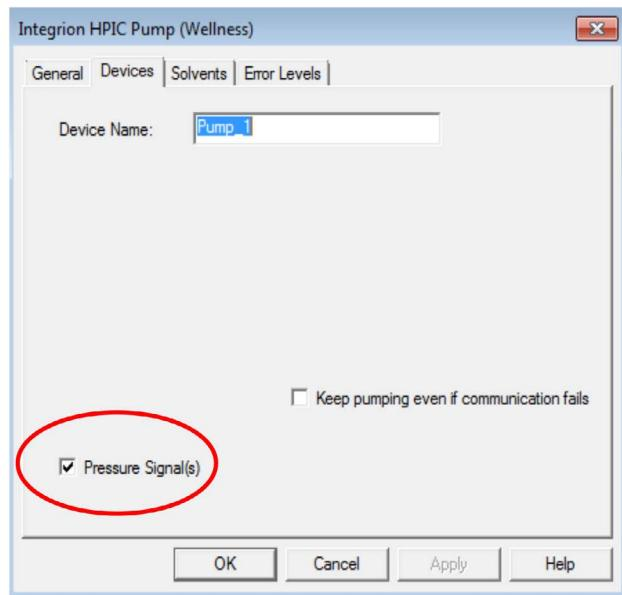

Figure 3. Adding the Dionex Integron HPIC Pump Wellness module to instrument configuration.
3. Select the Devices tab and click on the pressure signal box (Figure 3).